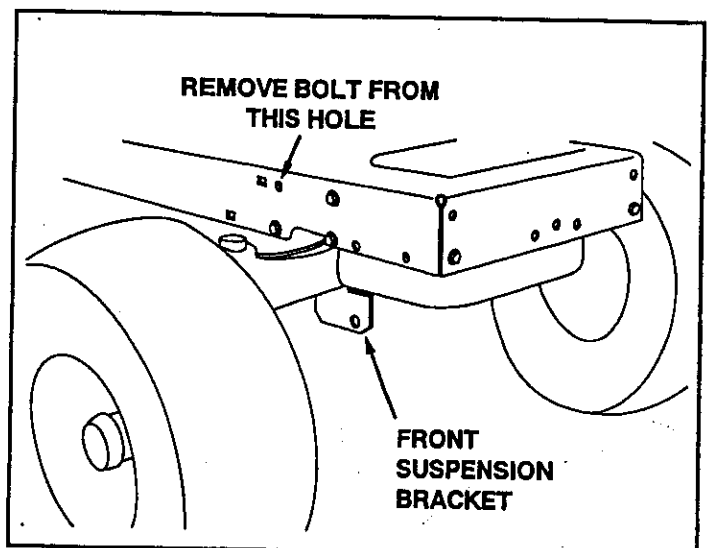

FIGURE 3
IF YOUR TRACTOR HAS FRONT SUSPENSION BRACKETS LIKE FIGURE 3
- Remove the bolt from the hole shown in figure 3 on both the right and left sides of the tractor frame.